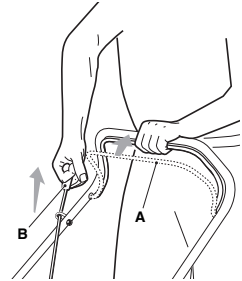

Figure 13
- Pull and hold the Operator Presence Control (OPC) lever against the handle to disengage the engine brake (Figure 13.A). **THE ENGINE WILL NOT START, OR CONTINUE TO RUN, UNLESS THE OPC LEVER IS HELD AGAINST THE HANDLE**
- Pull the starter cord with a strong smooth pull (Figure 13.B). Do not remove the pull cord from the guide.